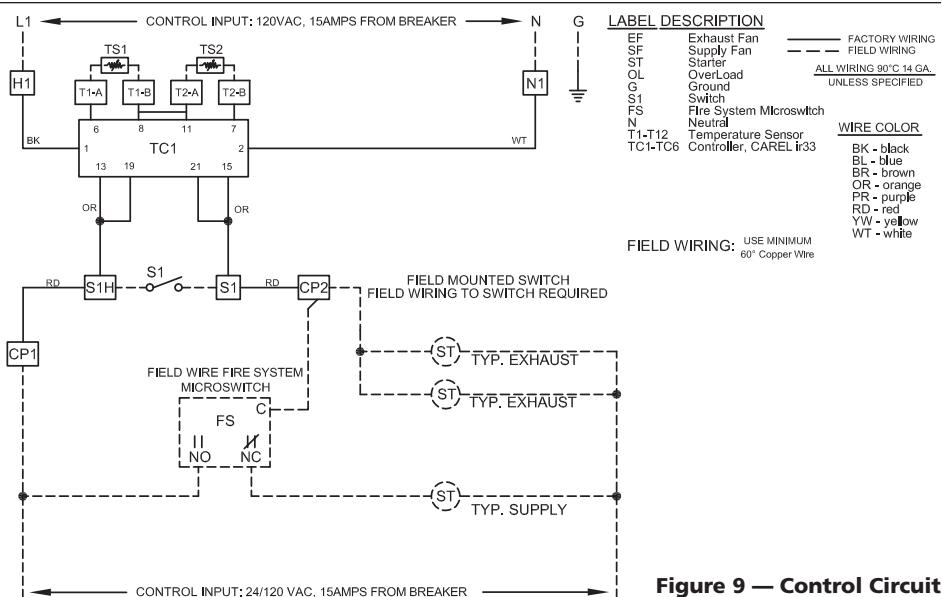

Figure 9 — Control Circuit
- Install standard interlock control circuit connections, see Figure 9.